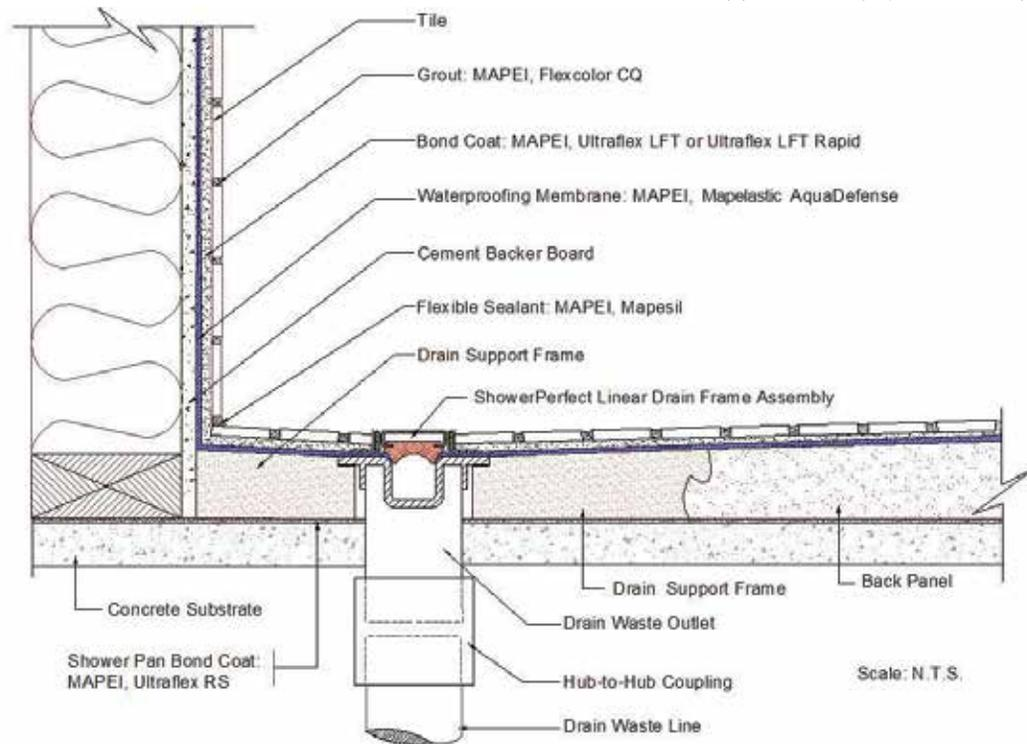

Figure 4: Drain orientation – set 3" to 6" (7,5 to 15 cm) from wall
4. Recommended location, size and length of the Linear Drain Body in relation to the 2" (5 cm) waste pipe line (or "stub-out") (see Figure 4):